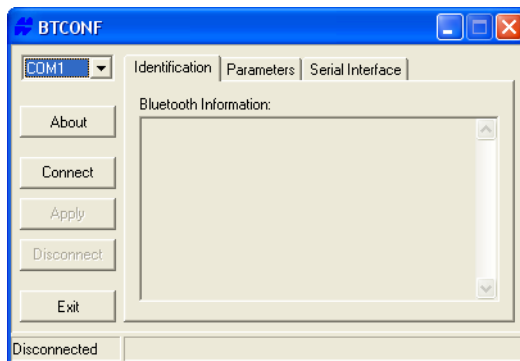

Figure 2-19. Bluetooth Module Configuration Main Screen
2. Run the Bluetooth module configuration program (Figure 2-19).